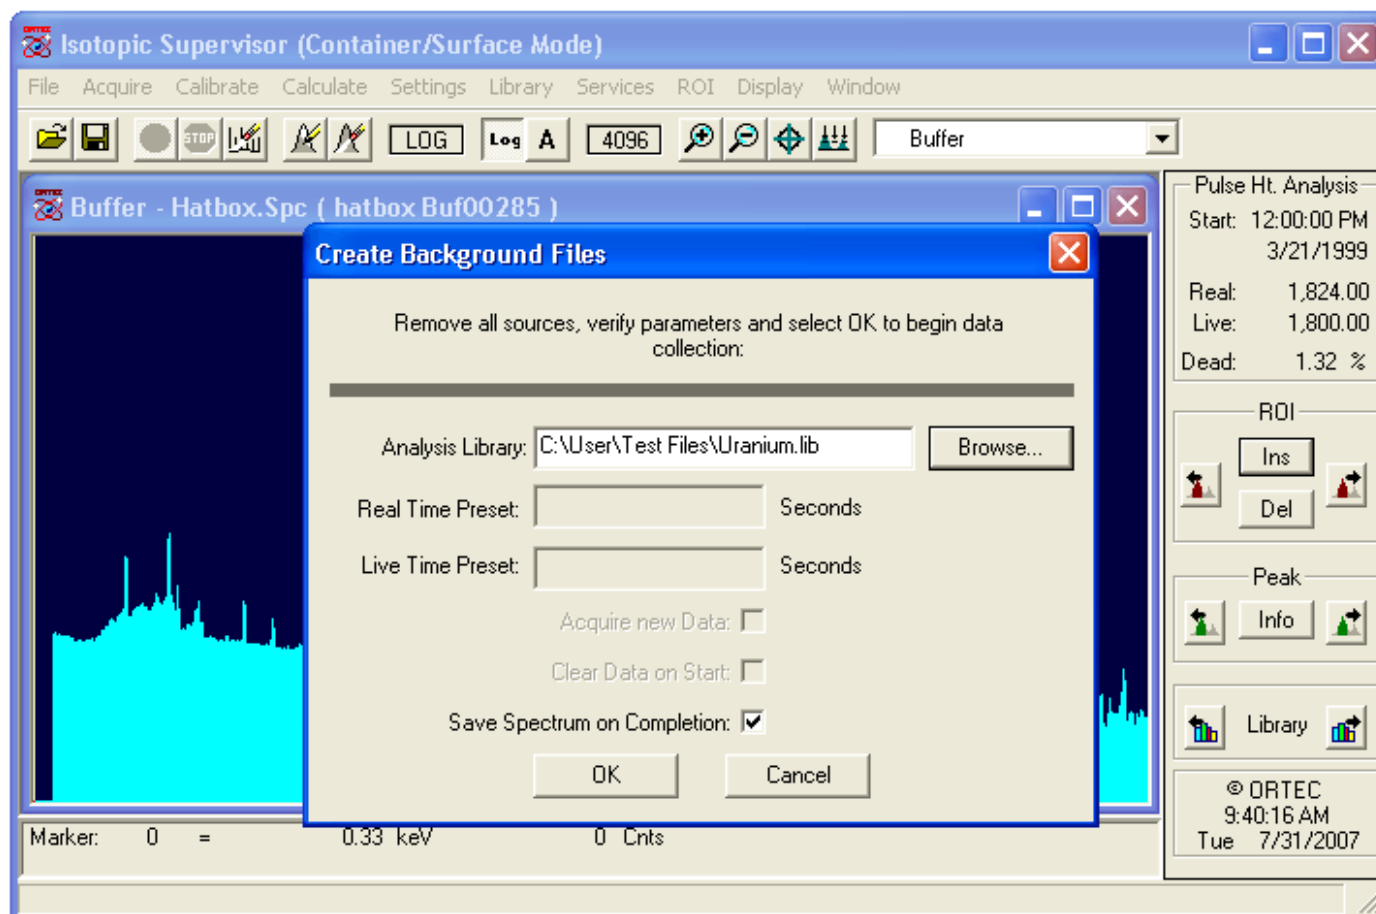

Figure 107. Creating a .PBC File from an Archived Spectrum File.
- Select **Create PBC...** This will open the dialog shown in Fig. 107. Browse for the **Analysis Library**. This will normally be a library of background nuclides.